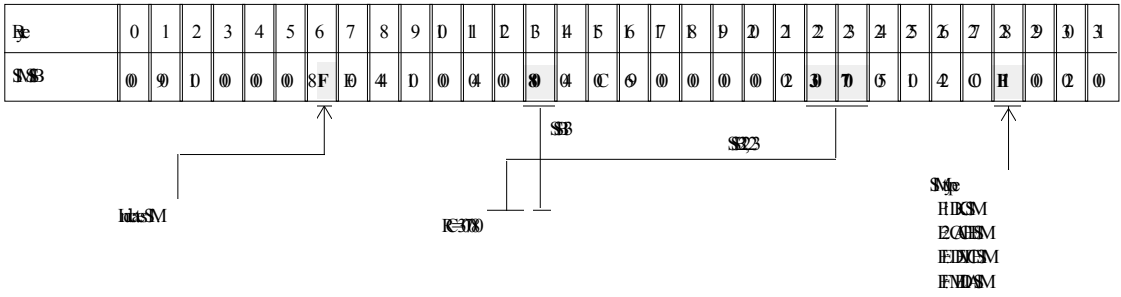

Figure 6.12 Typical SIM Showing Reference Code and SIM Type
Figure 6.12 illustrates a typical 32-byte SIM from the SE 9985. SIMs are displayed by reference code (RC) and severity. The six-digit RC, which is composed of bytes 22, 23, and 13, identifies the possible error and determines the severity. The SIM type, located in byte 28, indicates which component experienced the error.